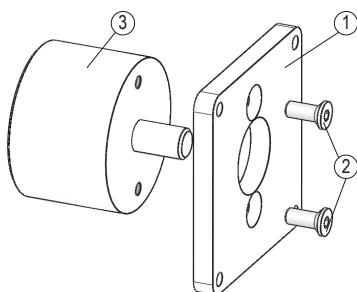
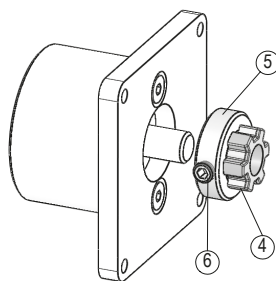
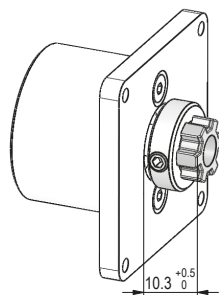
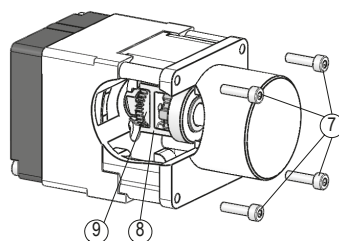

Fig. 7: Mounting flange/encoder
Fig. 8: Mounting coupling
Fig. 9: Distance flange/
Fig. 10: Mounting of encoder/
Mounting (Fig. 7, Fig. 8, Fig. 9, Fig. 10):
1. Mount the flange ZB4002 (1) (see chapter 7.3) with the counter sunk screws (2) to the encoder (3).
2. Slide coupling part (4) and ring (5) over the encoder shaft and fix it with the grub screw (6).
3. Pay attention to the distance flange/coupling (see Fig. 9)!
4. Check the correct position of rubber coupling (8) on gear (9) .
5. Join parts (1) ... (6) into the rubber coupling (8) and mount to the wire actuated encoder using cylinder screws (7).